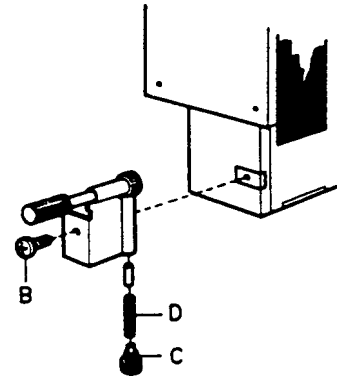

Fig. 76
2. Remove the lighter by loosening the screw B retaining the lighter (Fig. 76).